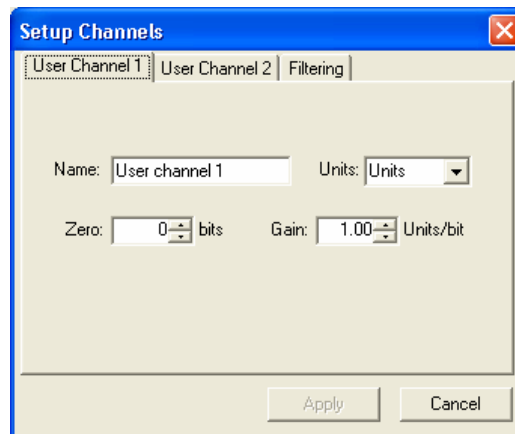

Figure 37 - Setup Channels Dialog (User Channel Page)
1. Choose **Setup ➤ Channels** from the main menu. The Setup Channels Dialog (Figure 37) appears.
The two user channels of the RCA40 are configured in the same way so the pages used to set them up are identical. Click the **User Channel 1** tab to display the User Channel 1 page (Figure 37) and the **User Channel 2** tab to display the User Channel 2 page.